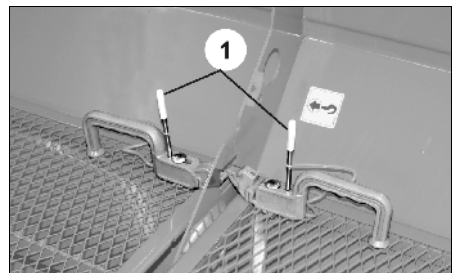

Fig. 16
- (Fig. 16/1) parking position (standard position)